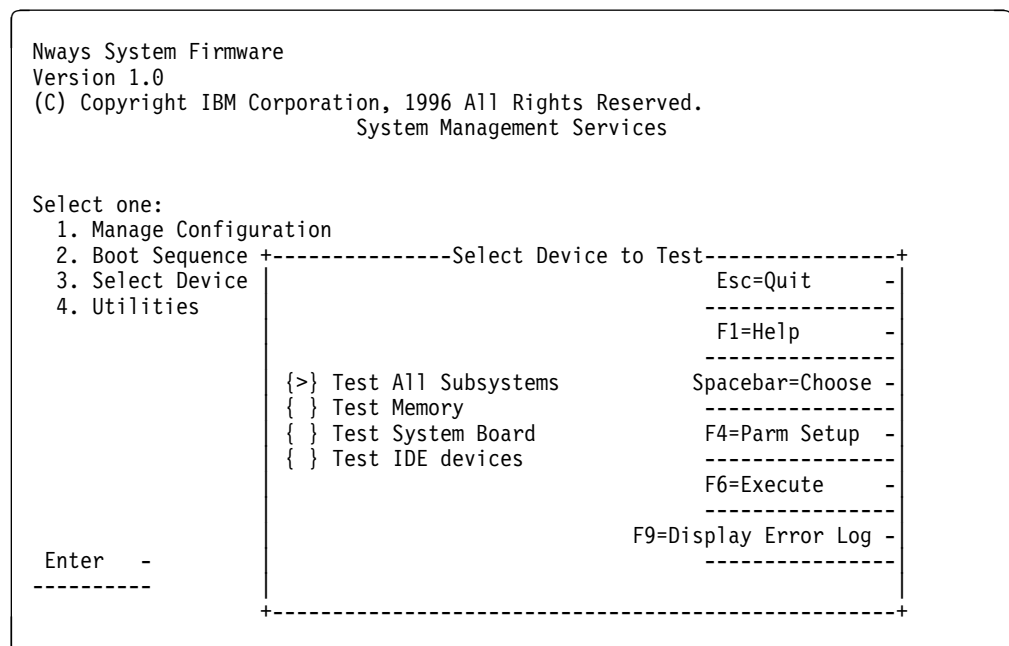

Figure 5-5. Test Selection Panel
**2** The Select Device to Test panel is displayed (Figure 5-5).